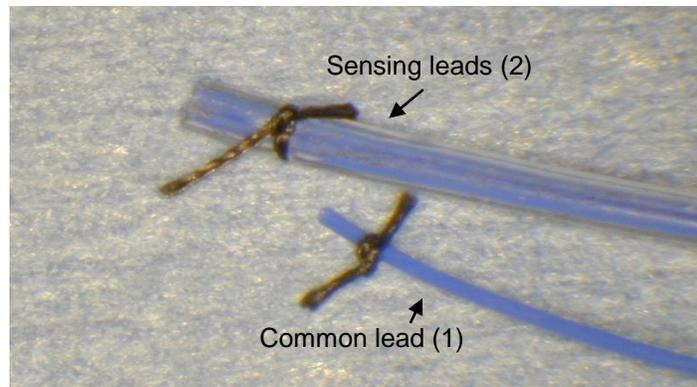

Figure 15: Sutures are tied to the ends of the leads to prevent fluid from migrating inside
2. Tie a piece of suture tightly around the end of the leads to prevent any moisture or cleaning fluids from migrating inside. For the two sensing leads, the suture can be tied around the silastic tubing that bundles them together. For the common wire, the suture can be tied around the blue Teflon as shown in Figure 15.